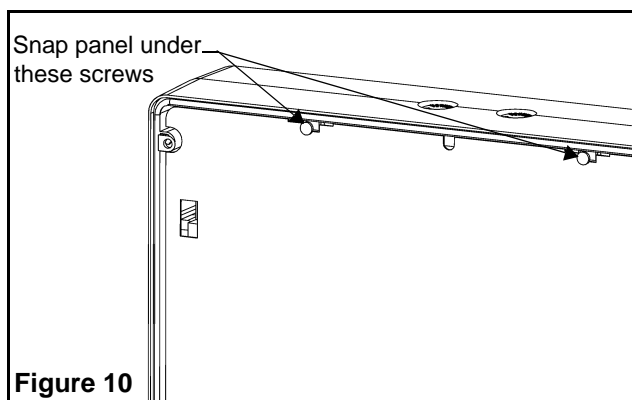

Figure 10
4. Install the diffuser panel by snapping the top edges under the two top retention screws and then snapping the bottom edges under the two bottom retention screws (see fig.10).